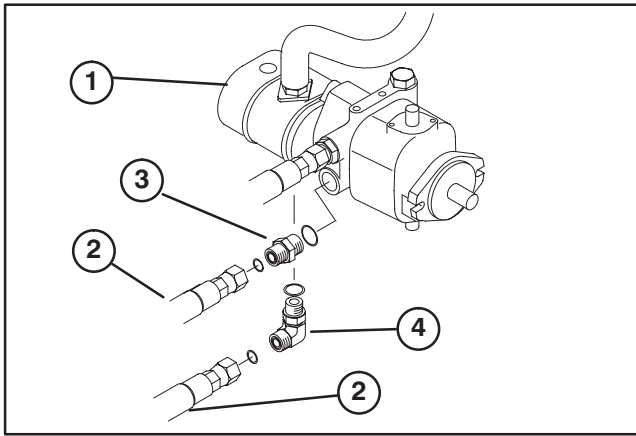

Figure 5
11. Disconnect and remove hydraulic hose secured to 90° fitting on bottom of hydrostat/gear pump and to fitting on valve block. It is not necessary to remove fittings (Fig. 5).
12. Disconnect and remove hydraulic hose secured to lower straight fitting on front of hydrostat/gear pump and fitting on traction circuit tube (Fig. 5).
13. Remove straight fitting from hydrostat/gear pump (Fig. 5).